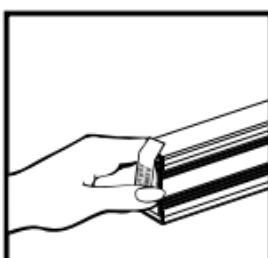

Figure 4: Removing Protective Sticker
- Carefully remove the protective sticker from the laser module battery making sure not to leave any pieces behind that might prevent the batteries from making contact (Figure 4 below).